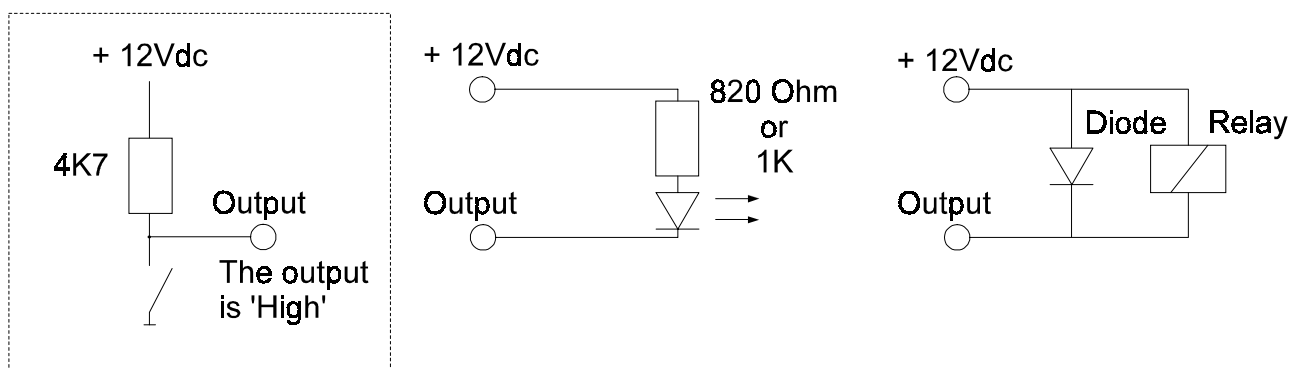

Figure 3. Connection of LED's or relays to the outputs
**Note:** The outputs are connected with the minus, Therefore connect **everything** between the + 12V and the output. See also Figure 3.